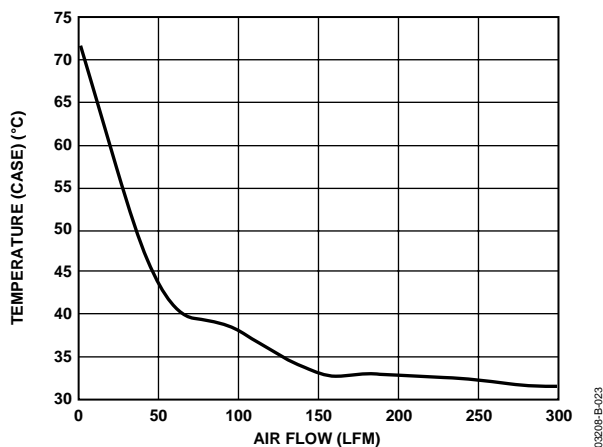

Figure 15. Temperature (Case) vs. Air Flow (Ambient)
- The unit rises to ~72°C ( $T_C$ ) on the heat sink in still air (0 linear feet per minute (LFM)). The minimum recommended air flow is 100 linear feet per minute (LFM) in either direction across the heat sink is (see Figure 15).